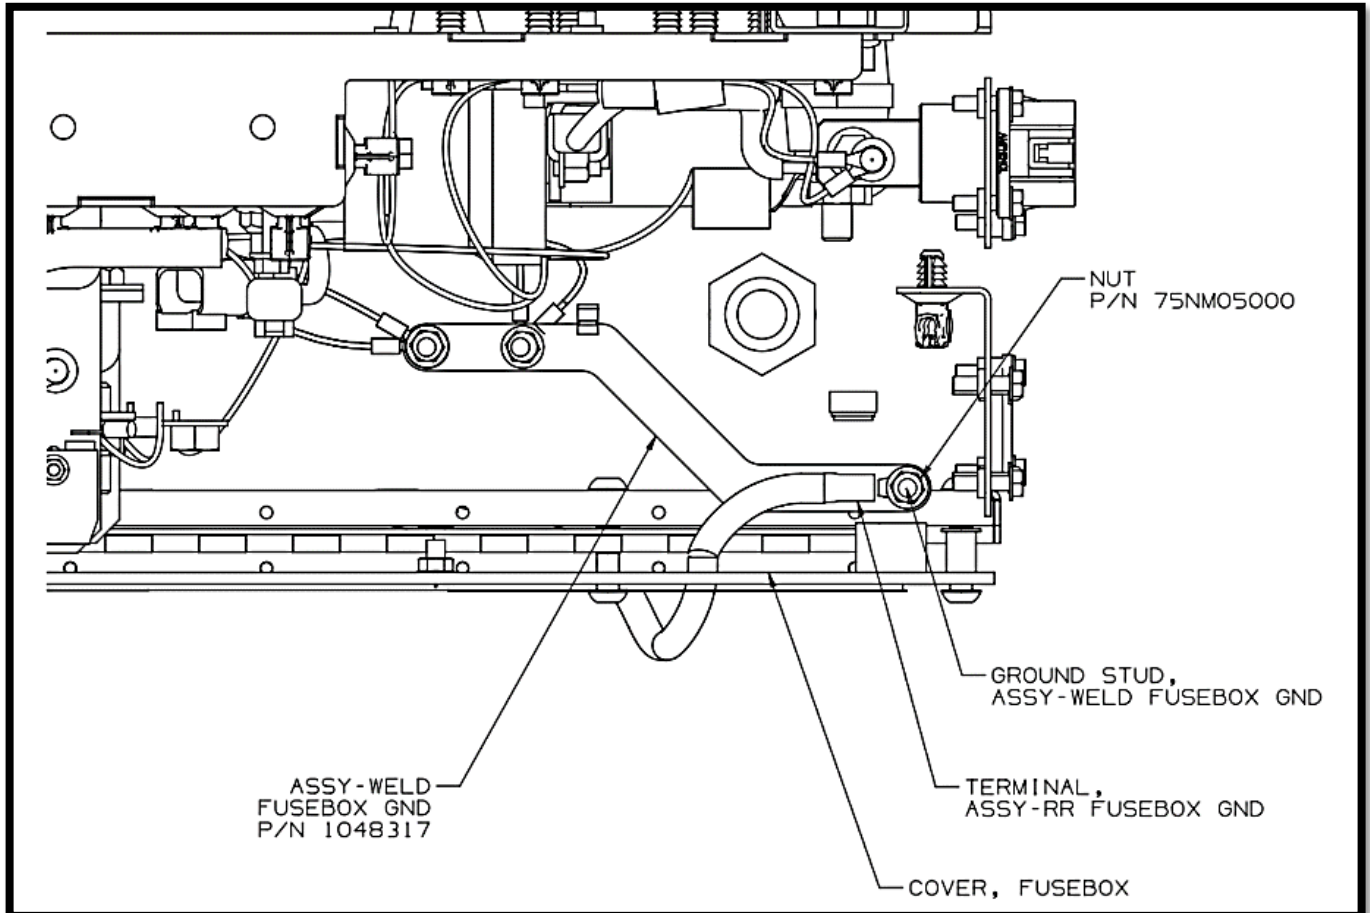

Figure 2 - New ground bracket
2.5. Install ASSY-WELD FUSEBOX GND P/N 1048317 and ground wires to the ground studs of the fuse box using the nuts that were removed in step 2.4, as shown in Figure 2. install a new nut P/N 75NM05000 if only one nut was removed in step 2.
2.6. use nut P/N 75NM05000 to fasten the loose end of ASSY-RR FUSEBOX GND wire P/N 859640 to the ground stud of ASSY-WELD FUSEBOX GND P/N 1048317. Orient the terminal end of the wire so that it is parallel to the cover of the fuse box as shown in Figure 2.